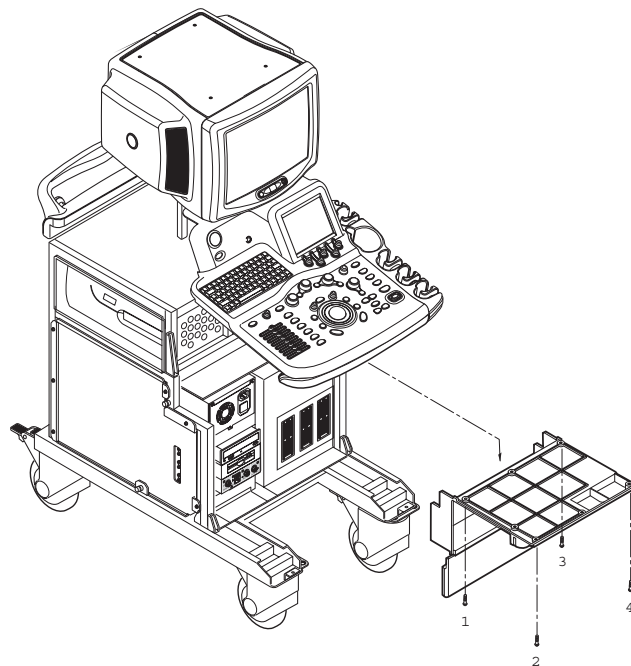

Figure 8-63 Removing the OP Bottom Cover
- 7.) Unscrew four (4) screws (1-4). Refer to Figure 8-63.